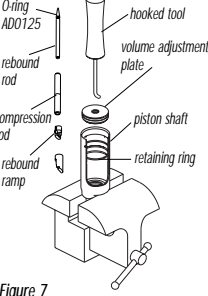

Figure 7
1. To change the shock's volume (or repair a leak in the piston shaft) the black, volume adjustment plate within the piston shaft must first be removed. With the piston shaft still clamped in the vice, remove the aluminum rebound rod and compression rod by pulling them up and out of the black plate (do not use tools that will damage the surface). They will probably come out together. (Figure 7)